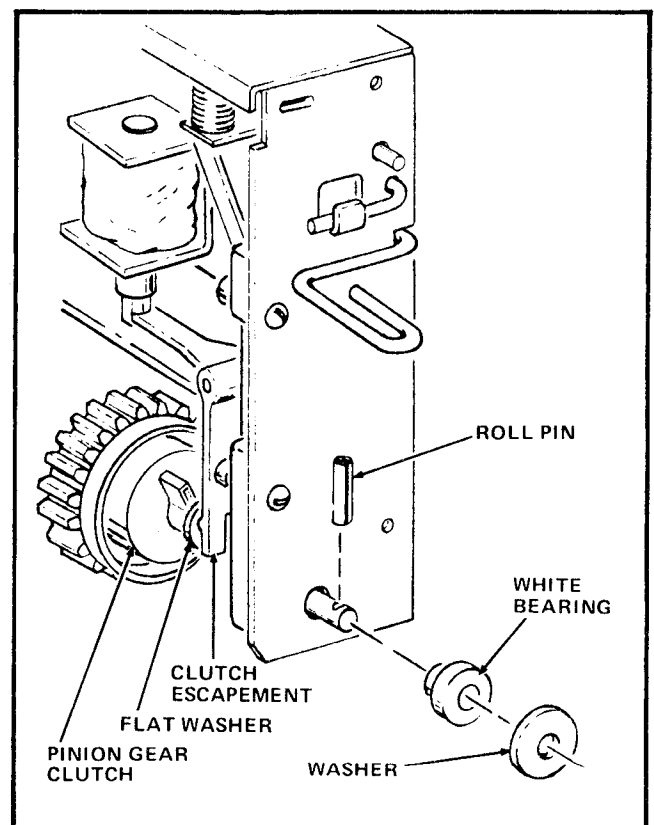

FIGURE 5
- a. If the Power Shaft Assembly has a Roll Pin in the Shaft end, remove the Roll Pin, Washer and White Bearing. See Figure 5. If the Power Shaft Assembly does not have the Roll Pin as indicated, skip to Step A-3b.
- (1) The Flat Washers not secured by the roll pin on the Power Shaft must fit between the Clutch Escapement and the Pinion Gear Clutch. See Figure 5.
- (2) The center Bracket on the Gear Train Channel must fit in the Power Shaft Support Bearing.
- c. On early model Merchandisers, install the White Bearing, Washer and Roll Pin on the End of the Power Shaft. See Figure 5.